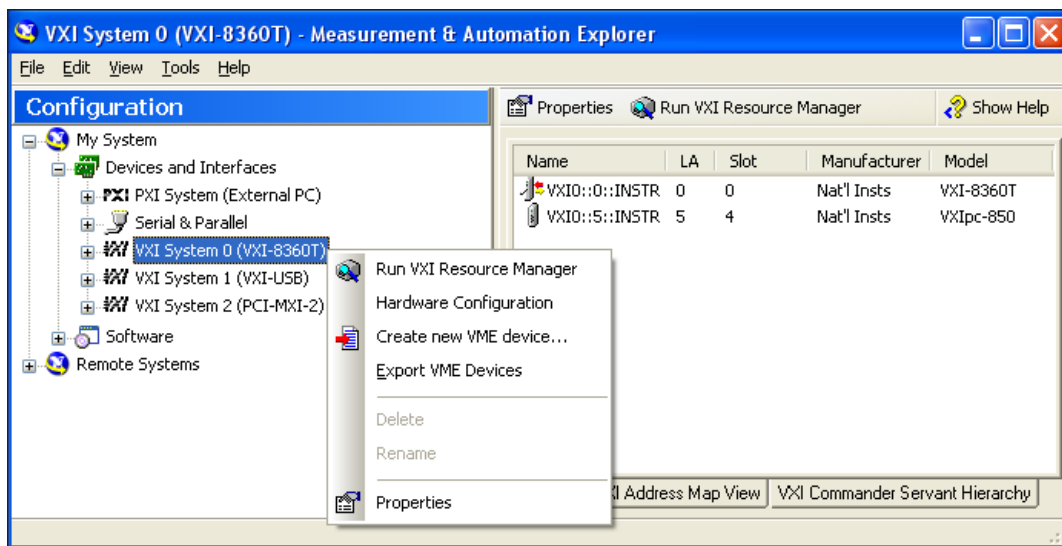

Figure 2-1. Right-Clicking on a VXI System in MAX
3. Verify the configuration of your VXI system by right-clicking the device in the configuration tree, and selecting **Properties** or **Hardware Configuration**, as shown in Figure 2-1.
4. Run Resman by either clicking the Run VXI Resource Manager button in the toolbar or right-clicking on the VXI system, as shown in Figure 2-1.